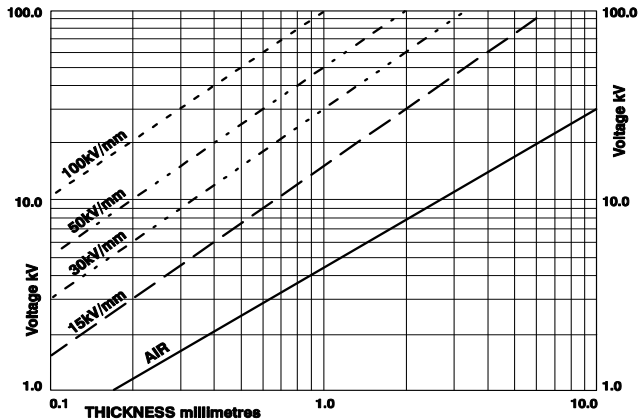

Figure 4. Breakdown voltage against thickness for materials of different dielectric strengths
The voltage at which a particular thickness of material breaks down is termed the dielectric strength. This is usually expressed as the voltage per unit distance, e.g. kV/mm. Its value depends on the type of applied voltage, e.g. AC, DC or pulsed, temperature and thickness. Figure 4 shows the relationship between breakdown voltage (DC) and thickness for materials of different dielectric strengths.
If the coating thickness is known, or can be measured, the lower limit value can be read from Figure 4, using the line marked AIR. For instance, if the coating thickness is 1.0 mm then the lower limit is ~ 4.5 kV.
Measure the thickness of the layer and refer to Figure 4. Alternatively, calculate the maximum voltage, allowing for variations in the coating thickness. Note that 1 kV per mm is equivalent to 25.4 V per mil (thou).